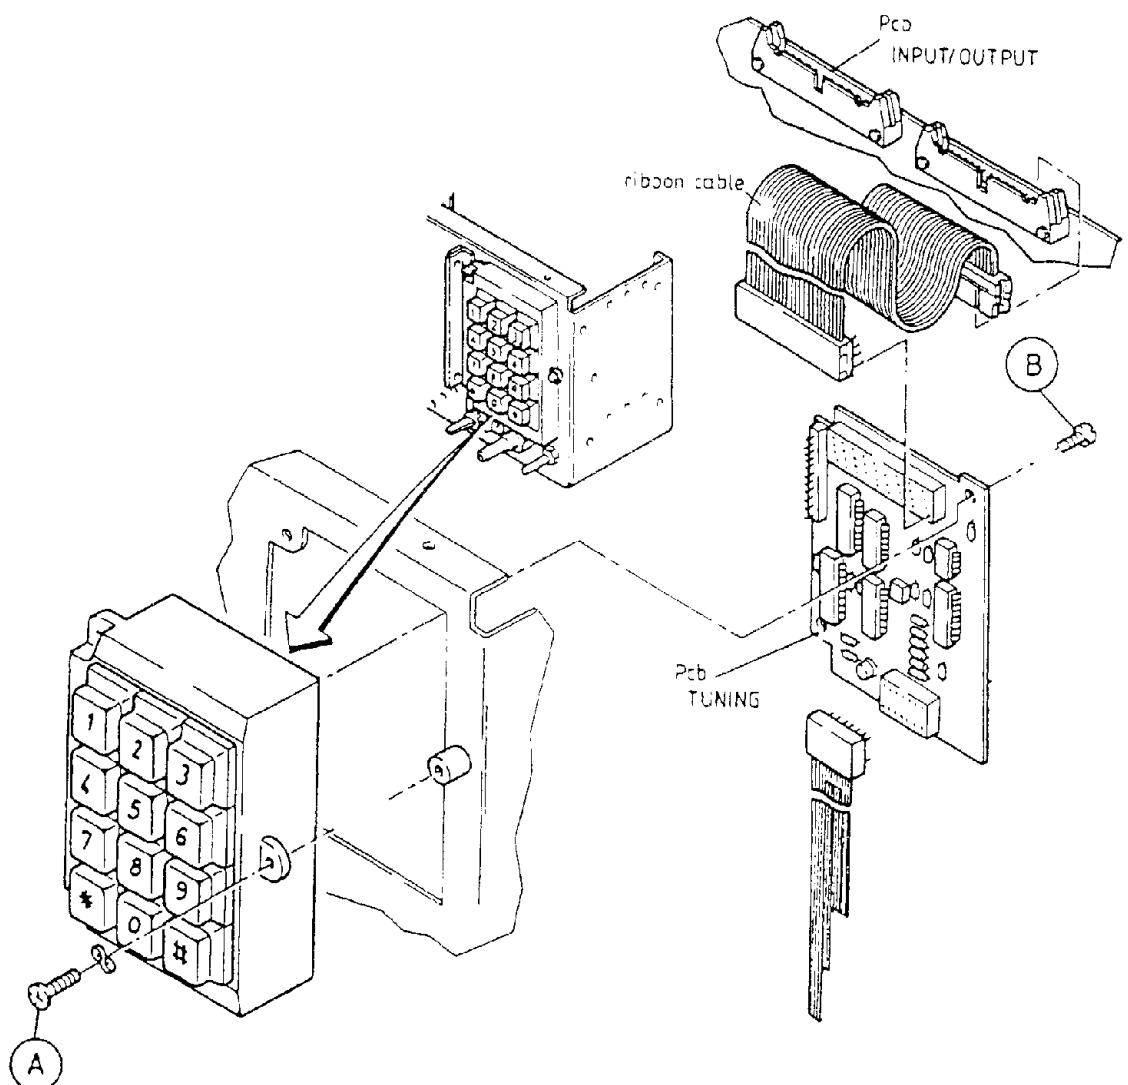

Fig. 3-23 Replacement of the Keyboard
- unsolder the cables of the potentiometer, see fig. 3-23.
- unscrew mounting screws (A), see fig. 3-23, remove keyboard with the TUNING PCB.
- unscrew mounting screws (B) and take off the printed circuit board